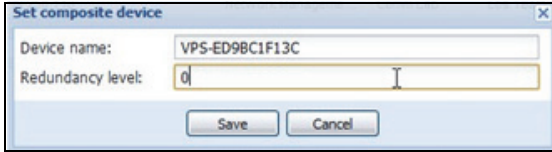

Figure 64. Set Composite Device Dialog Box
- 4 In the dialog box, specify a device name and redundancy mode and level (see Figure 64):